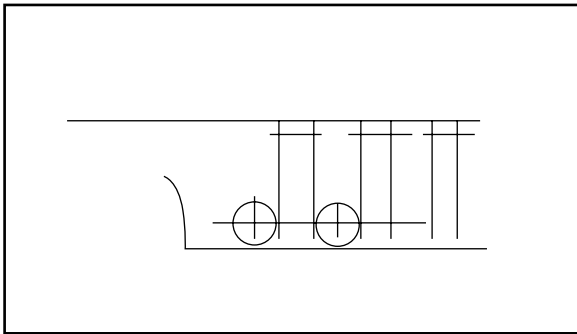

Figure 23.4 Transfer marks for the drill holes.
2. Transfer the location of the drill holes used to rough out the bolt and the location of the notches along the top edge of the bolt. Mark the drill locations with a sharp center punch. Use only well-sharpened drill bits with cutting edges that are uniform in length and ground to the same angle. This will minimize any holes from drifting out of position. The accuracy of these holes will determine the success of the lock. Start with a small diameter drill as a pilot hole, then step up to the final size, e.g., $\frac{1}{8}$, $\frac{3}{16}$, $\frac{1}{4}$, $\frac{5}{8}$ inch. After drilling the holes, use a hacksaw to remove the remaining metal. The notches along top edge of the bolt are cut using a hacksaw and chisel (Fig. 23.4).